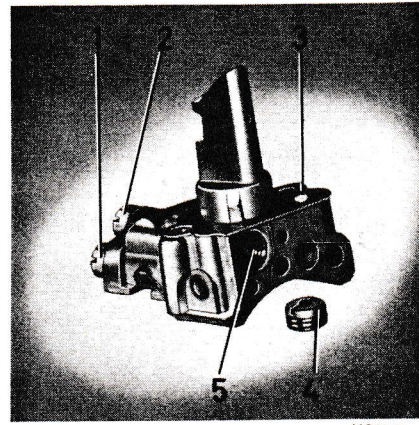

Fig. 71. Emulsion block
4. Screw out all the jets from the emulsion block, Fig. 71.